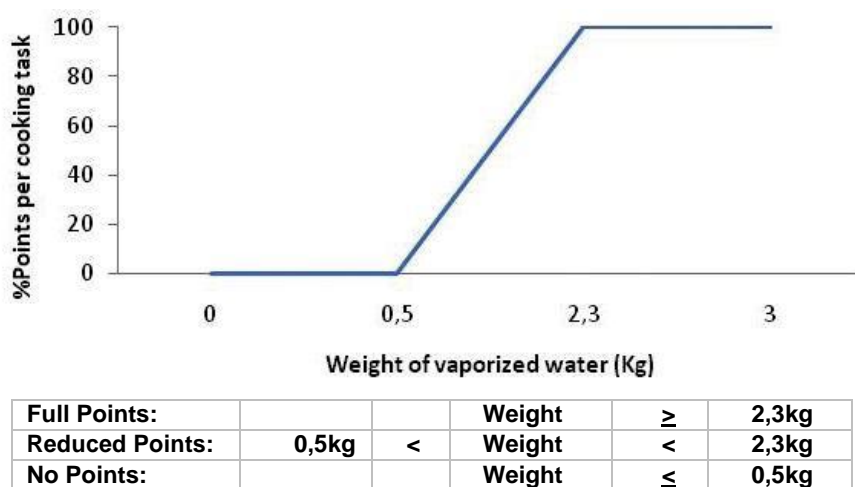

Figure 5.8: Cooking sub contest point's distribution
- a) Reduced points are earned if between 0.5 kg and 2.3 kg of water are vaporized. Reduced point values are scaled linearly, as shown in Figure 5.8.